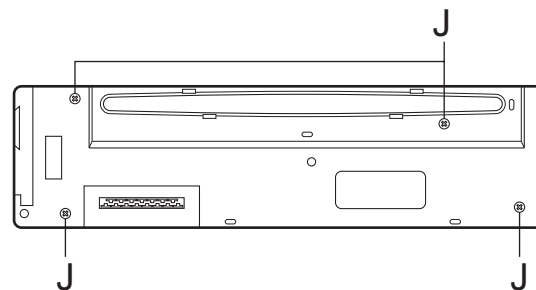

Fig.10
2.1.8 Removing the switch board (See Figs.10 to 12)
(See Figs.10 and 11)